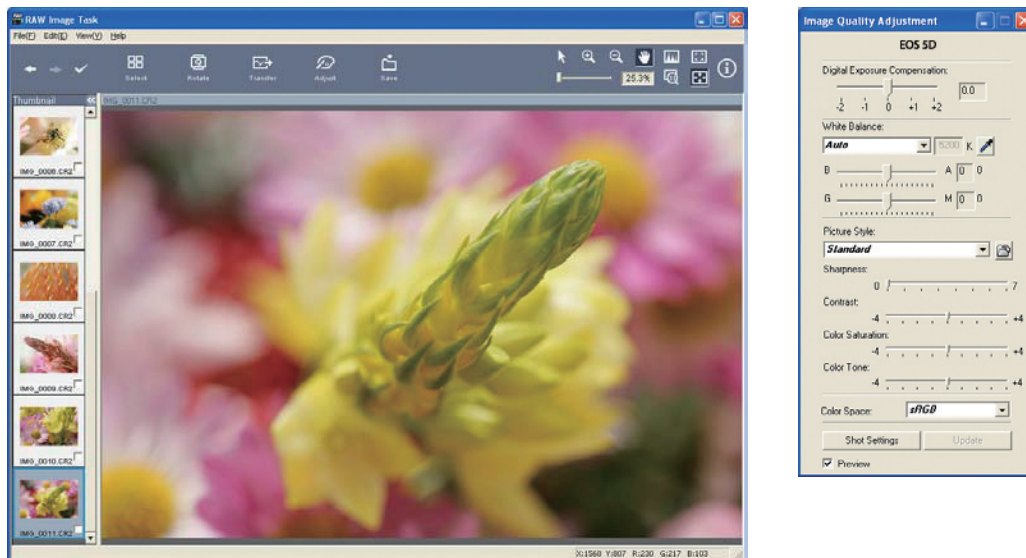

Fig. 012 RAW Image Task Ver 2.2 Main window
Built around version 2.0, this RAW image processing software incorporates the major function additions and modifications described below to expand its range of supported RAW images and better reflect the demands of the market (Fig. 012).
- Main window design modified (operation-step tab format removed, etc.) for improved operability (Fig. 012).